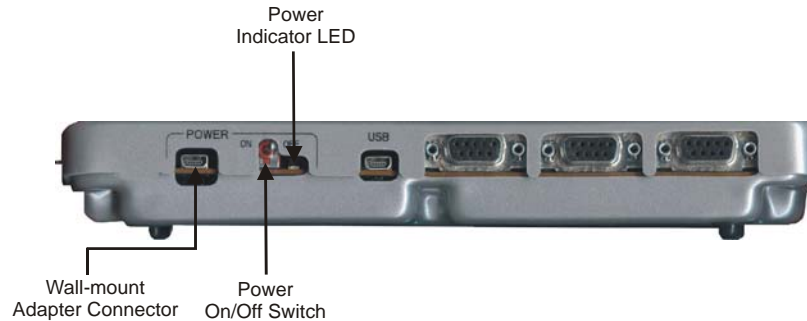

Figure 2-8: G24 Developer's Kit Wall Mount Adapter Connector
1. Connect the Wall mount adapter to the Power Adapter connector (J210) (Figure 2-8)